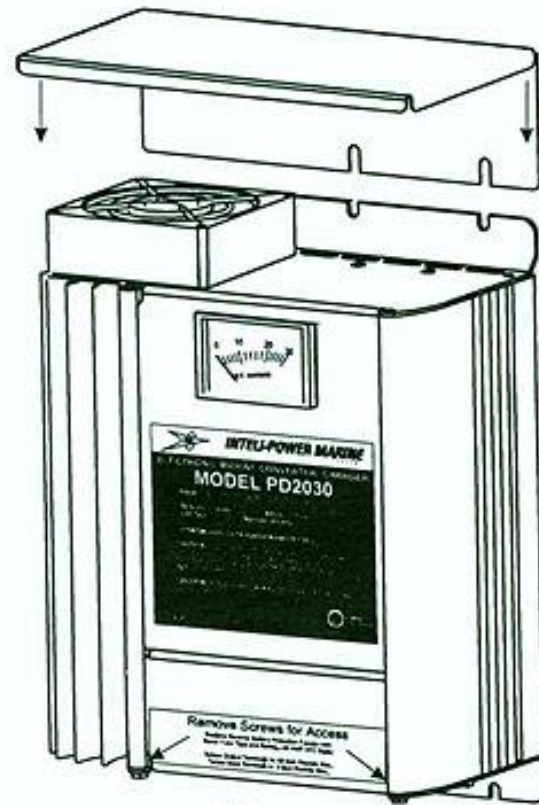

Figure 1
- You can figure 1 hp (engine load) per 25 amps (12 volt) at maximum output.